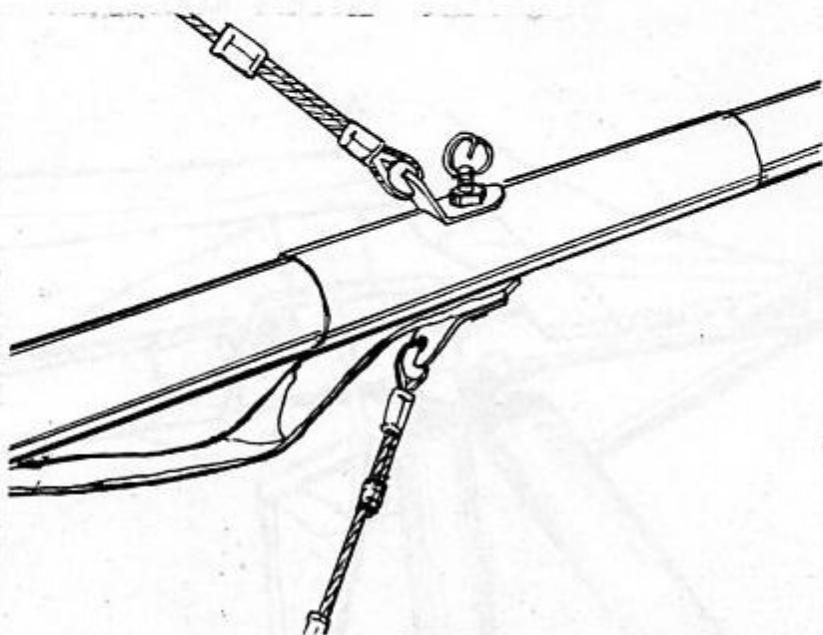

Fig. 3.4.10.
9. Check that the top rear wire, the keel mount webbing, bottom rear wires are safely secured to the N2 keel tube using the bolt, the nut and the safety ring (Fig. 3.4.10).